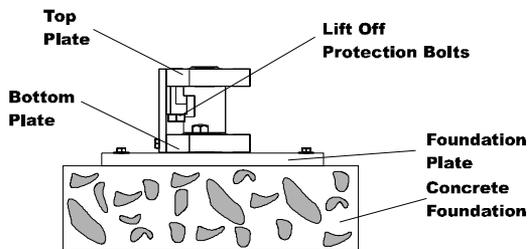
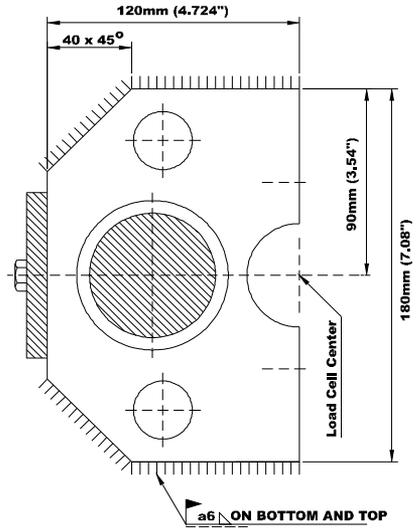

FIG. 6: INSTALLATION OF LOAD POINT ASSEMBLY ON FOUNDATION PLATE
FIG. 10: WELDED ALTERNATIVE
- Step 4. Place the Load Sensor Mounting Assembly with shipping spacer on the foundation plates. (See Fig. 6) If you are using bolts to fasten the Load Point Mounting Assemblies to a foundation, Fig. 10 shows where to set the anchor bolts in the foundation.
1. Weld the bottom plate to the foundation plate. (See Fig. 10). Make sure to clean all welds with a wire brush and apply a coat of primer and protective paint to all welded surfaces.
- Step 10. **If you weld** the top plate to the load carrier plate, make sure that the top plate is parallel with the shipping plate and that the top plate is not rotated. Tack weld the top plate to the load carrier plate. Once you are sure that the top plate is lined up with the bottom plate, finish welding the top and load carrier plates together. (See Fig. 10 for welding information)